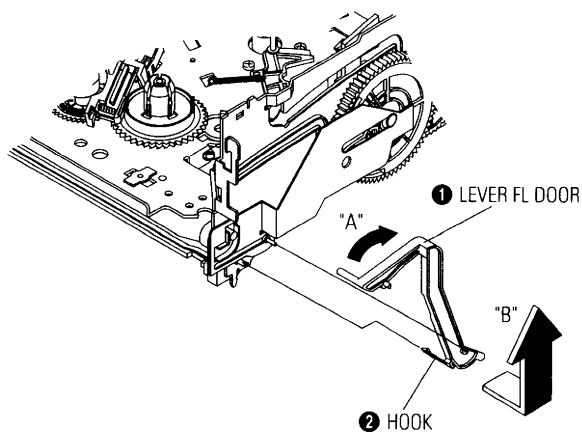

Fig. 4-10 Lever FL Door Removal
- 1) Remove the Lever FL Door. (Refer to Fig. 4-10)
- 2) Pull the Holder FL Cassette Ass'y ❶ to the eject position.
- 3) Pull the Holder FL Cassette Ass'y ❶ as grasping the Holder FL Cassette Ass'y ❶ and Lever FL Cassette-R ❷ in the same time to release hooking from Main Base until the Boss [A], [B] of Holder FL Cassette Ass'y ❶ is taken out from the Rail [C], [D].
- 4) Lift the Holder FL Cassette Ass'y ❶ in the direction of arrow "B" in this time, you have to grasp the Lever FL Cassette-R ❷ continuously until the Holder FL Cassette Ass'y ❶ is taken out completely.
**Note :** Be sure to insert Lever FL Cassette-R ❷ in the direction of "A" to prevent separation and breakage of the Lever FL Cassette-R ❷ at disassembling and reassembling.